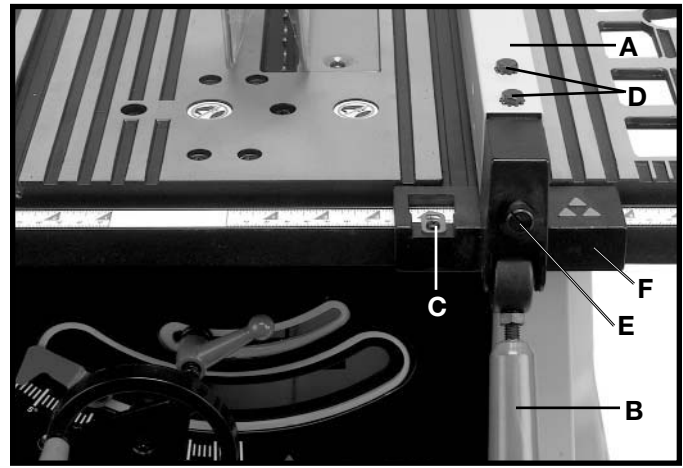

Fig. 37
1. To move the rip fence (A) Fig. 37, along the table, lift up fence locking lever (B), slide the fence to the desired location on the table and push down fence locking lever (B) to lock the fence in position.
2. A pointer indicates the distance the fence is positioned away from the saw blade. If an adjustment to the pointer is required, loosen the screw (C) Fig. 37, that fastens the pointer to the fence bracket and adjust the pointer accordingly.
5. Position the fence next to the miter gage slot, as shown in Fig. 37. Clamp the fence to the table by pushing down the locking lever (B). The edge of the fence should be parallel to the miter gage slot.
7. Loosen the two screws (D) Fig. 37, and lift up locking lever (B). Then while holding the fence bracket (F) firmly toward the front of the saw, move the rear end of the fence (A) until it is parallel with the miter gage slot. Then tighten two screws (D) and push down locking lever (B).
8. The clamping action of the fence (A) Fig. 37, can be adjusted by lifting up locking lever (B) and turning screw (E) clockwise to increase or counterclockwise to decrease the clamping action of the fence.
3. If the table insert is above the surface of the table, tighten the two table insert screws (C) Fig. 37 (A), so that the table insert is level with the table or slightly below the surface of the table.